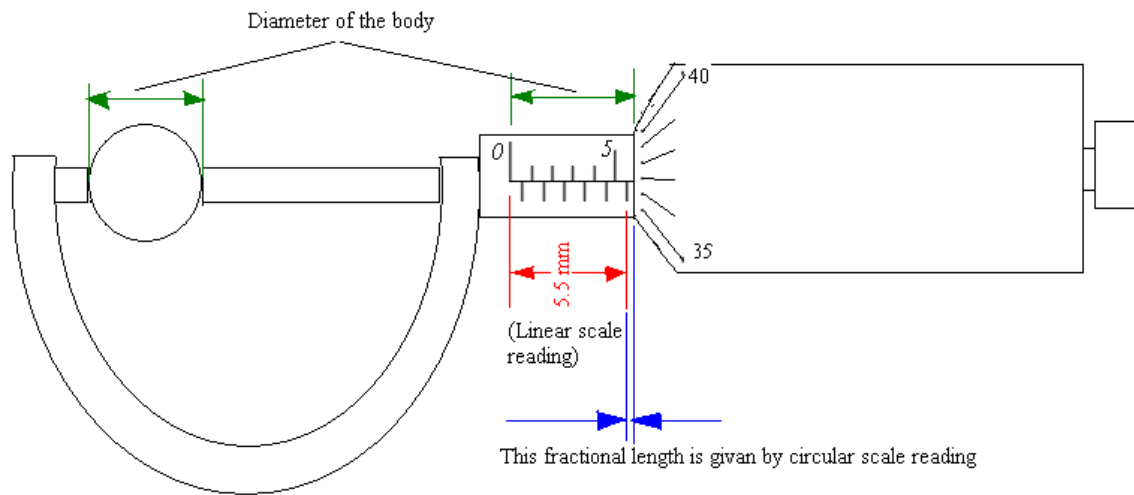

Figure 4: Measuring diameter of a ball.
Step 5: Now keep the body whose diameter or length is supposed to be measured between the left end point and the screw of the screw gauge. Rotate the circular scale until left end point and the screw both touch the body (figure 4)